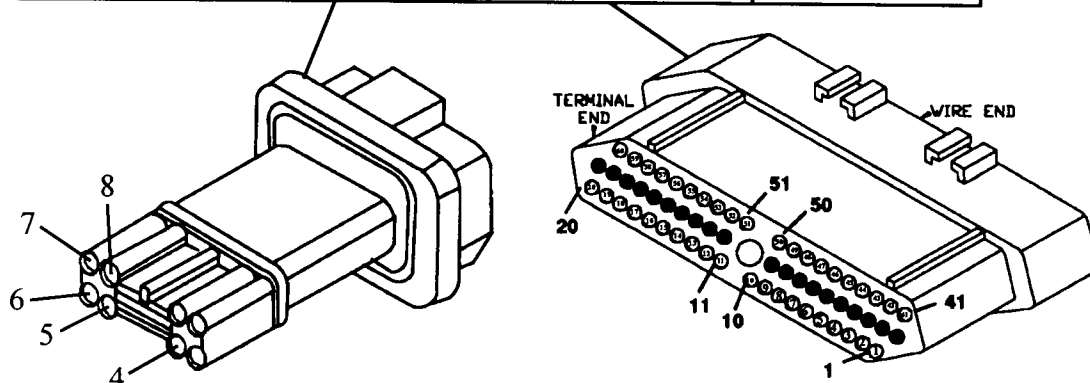

Figure 55
- If when performing the above check an open is seen on one of the solenoid wires, use Figure 55 to perform a continuity check on the wire in question. If it is determined that the wire is severed, a new wire can be run and spliced in outside the harness.